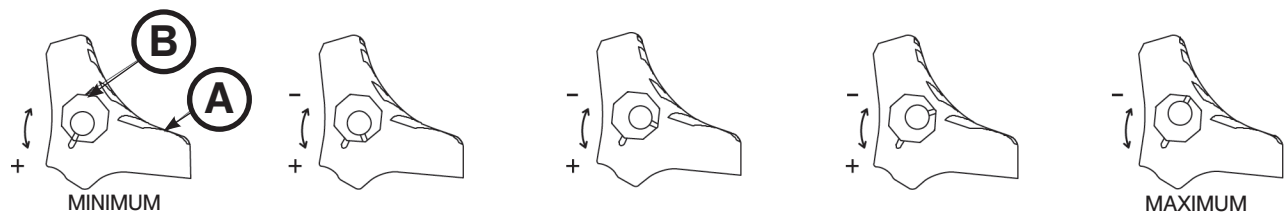

Figure 63: Wheel Locking Force Adjustment
1. Using the 5/32" hex wrench and 7/16" combination wrench or socket, remove the socket screw from the center of the lock pedal. The wheel lock is initially assembled with the pedal set at the minimum locking force. The marker on the pedal (A) is aligned with the marker on the octagonal sleeve (B) (Figure 63).
2. Remove the sleeve (B). Rotate the sleeve counterclockwise to increase the pedal locking force and clockwise to decrease the locking force. Insert the sleeve into the pedal (Figure 63).